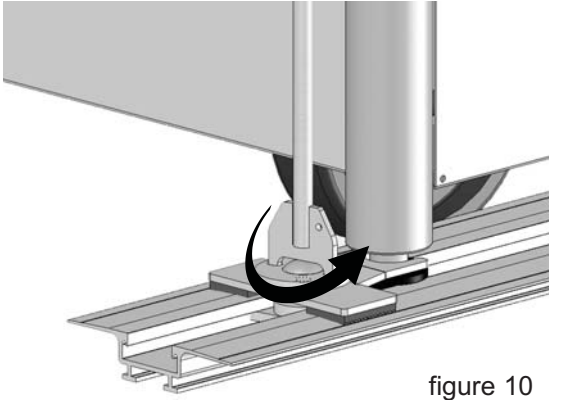

figure 10
5. To un-lock the Track Lock, insert the Track Lock handle into the Track Lock pivot and turn counter clockwise until the assembly is loose and can be removed from the track (figure 10).